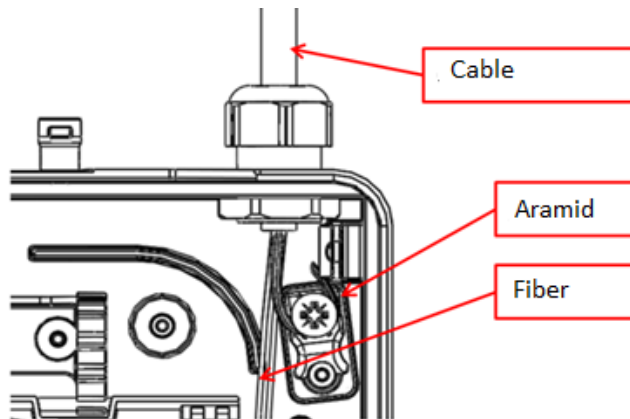

Figure 39
- 1.9.4 Use the cable glands and support for docking. Go through the support and perform tightening the screw (Fig.39).